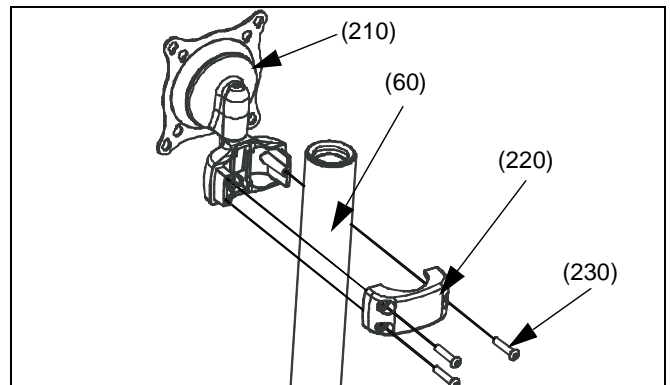

Figure 3: Mount Centris Head with Pole Clamp
2. Place front pole clamp, with Centris Head, (210) against pole in approximate mounting location.
3. Place three BHCS (230) into rear pole clamp (220) and place against pole aligning with front pole clamp (210). (see Figure 3)
4. Secure rear pole clamp (220) to front pole mount (210) and pole by tightening three BHCS (230) using 5/32" hex key (120). (see Figure 3)
5. Add pipe cap (270) to top of pole.